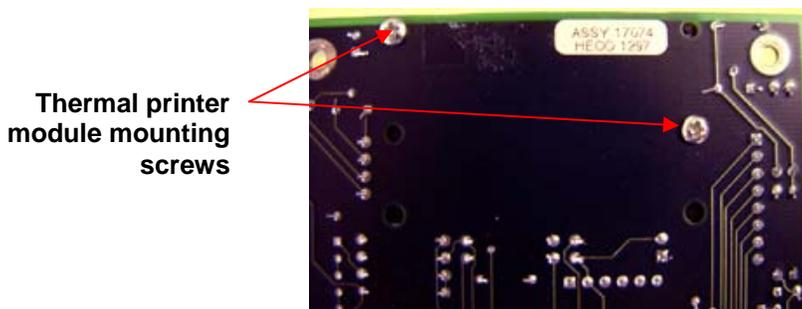

Fig. 5
8. Turn the PCB assembly over and remove the 2 thermal printer module mounting screws, set aside for reinstallation and remove the printer module. (see Fig. 5 & 6)